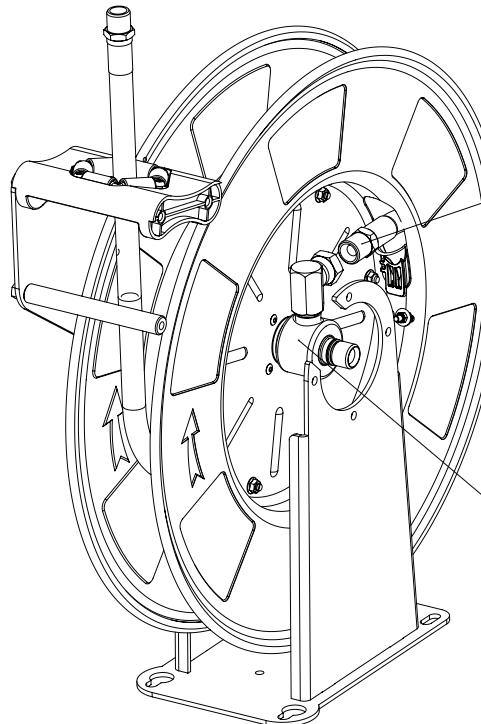

Fig. 8
1. Disconnect the hose from the swivel (6) (fig. 8).
2. Disconnect the inlet hose loosening the inlet fitting (1) (fig. 8), and move away the circlip (2) (fig. 8).
3. Loosen the bolts (3) (fig. 8), to be able to remove the upper arm (4).
4. Pull out the swivel assembly (5) (fig. 8) and replace the seals (6) (fig. 9).
5. Remove the upper arm (4) (fig. 8) removing away the circlip (2)(Fig.8) and loosening the bolts (3) (fig. 8).